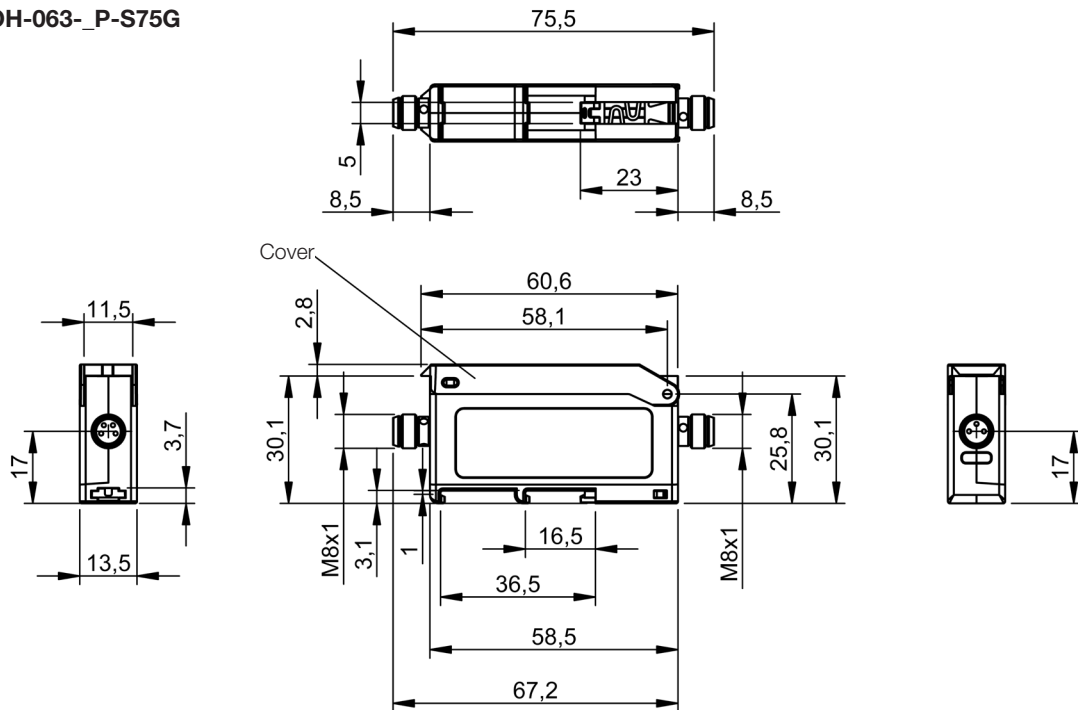

Fig 4-1: Dimensions, design and function
**i** For dimensions, see Fig 4-1 on page 8.